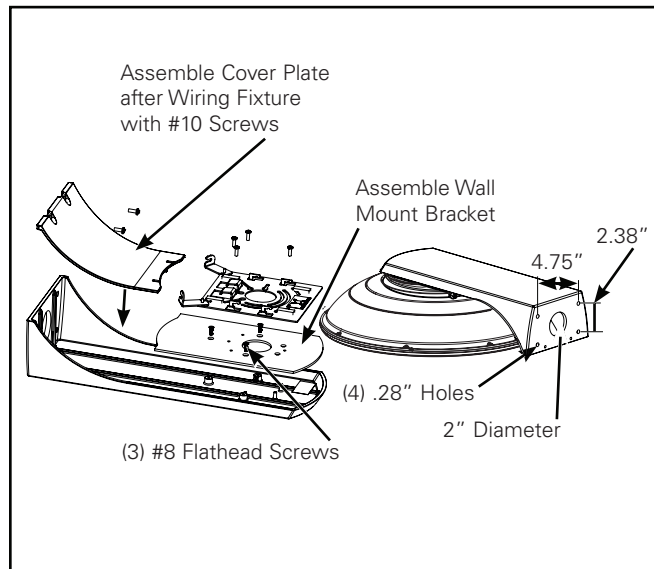

Figure 9. Wall Mount Option
Wall Mount (WM) Installation (Figure 9)